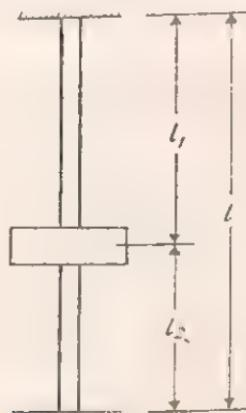

Fig. 72
6. A flywheel is mounted on a vertical shaft as shown in Fig. 72, the ends of the shaft being fixed. The shaft is 5 cm diameter, the length l_1 is 90 cm and the length l_2 is 60 cm. The flywheel weighs 500 kg and its radius of gyration is 50 cm. Find the natural frequencies of the longitudinal, the transverse and the torsional vibrations of the system. $E = 2 \times 10^6 \text{ kg/cm}^2$, $C = 0.8 \times 10^6 \text{ kg/cm}^2$.